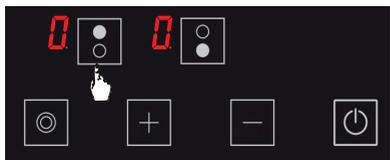

Figure 15
2. Press the upper hob selection key (⏻) again. (See Fig. 15)